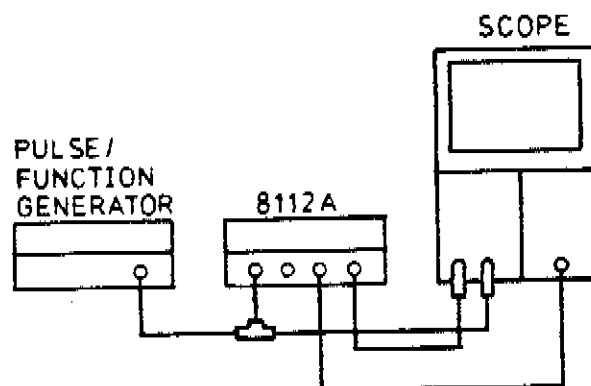

Figure 4-9. Equipment setup for TRIG, GATE, E.WID and E.BUR performance tests.
1. Connect equipment as shown in Fig. 4-9.